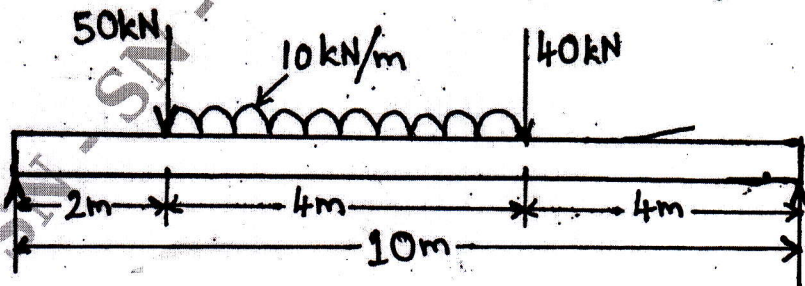

Fig Q5
- 5 A simply supported beam of length 10m carries the uniformly distributed load and two point loads as shown in Fig Q5. Draw the shear force and Bending moment diagram for the beam. Also calculate the maximum bending moment.